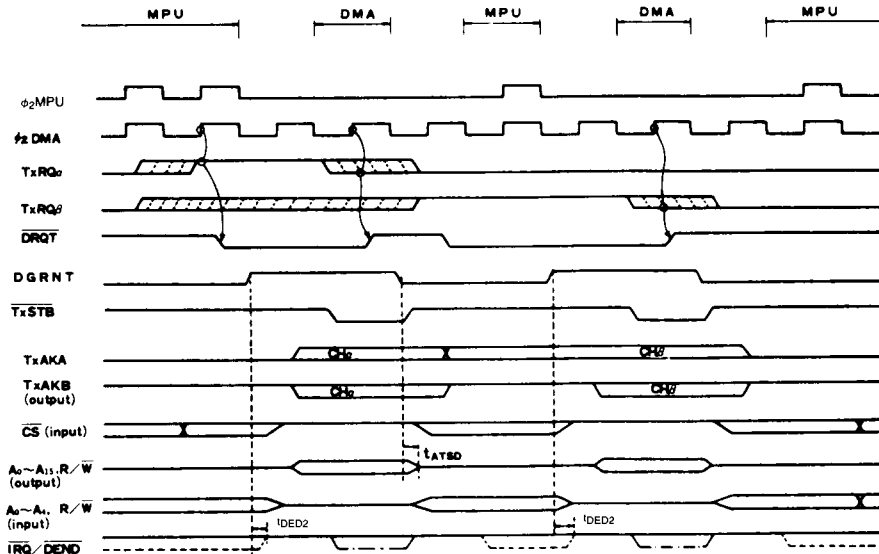
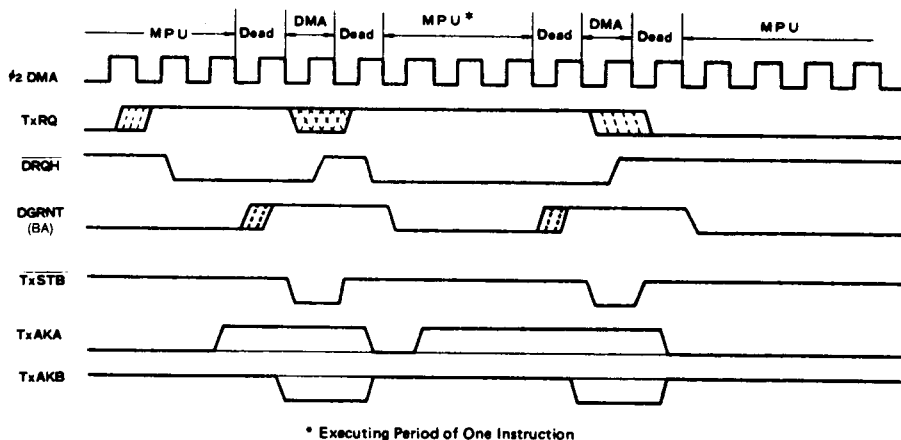

Figure 24 Channel Change (TSC Mode → TSC Mode)
Figure 26 Successive 2-byte Transfer of One Channel (HALT Cycle Steal Mode)
- (2) From TSC mode to TSC mode (Fig. 24)
- (3) From HALT mode to TSC mode
- (4) From TSC mode to HALT mode
The timing in the case where the next byte is transferred without changing the channel is shown in Fig. 26. This is the case of HALT → HALT mode. In this case, the bus control returns to MPU, before the next byte is transferred. In the case of TSC → TSC mode, its timing is almost the same as than in Fig. 24, that is, after 1-byte transfer has completed, MPU executes the Instruction Cycle for one clock and then DMAC executes 1-byte transfer again.